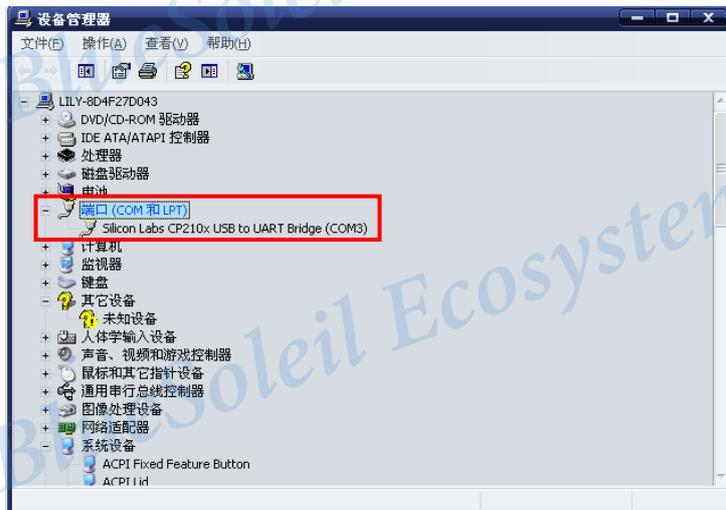

Figure 6 Created serial port
After installed the PC serial port driver, a serial port will be created for the connection between the BlueSoleil development kit and PC. See Figure 6 below.
1. Open the device manager in Windows to check the number of the serial port which is created for the connection between BlueSoleil evaluation board and PC. See Figure 6 above. Open the serial port terminal tool, Commix, select and open this serial port. The serial port default setting is: 115200(baud rate), 8(data bits), N(parity), 1(stop bits).